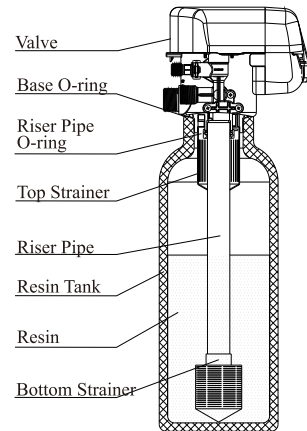

Figure 1
- a. As the Figure 1 shows, select the riser pipe with 32mm OD, glue the riser pipe to the bottom strainer and put it into the mineral tank, cut off the exceeding tube out of tank top opening. Plug the riser tube in case of mineral entering.